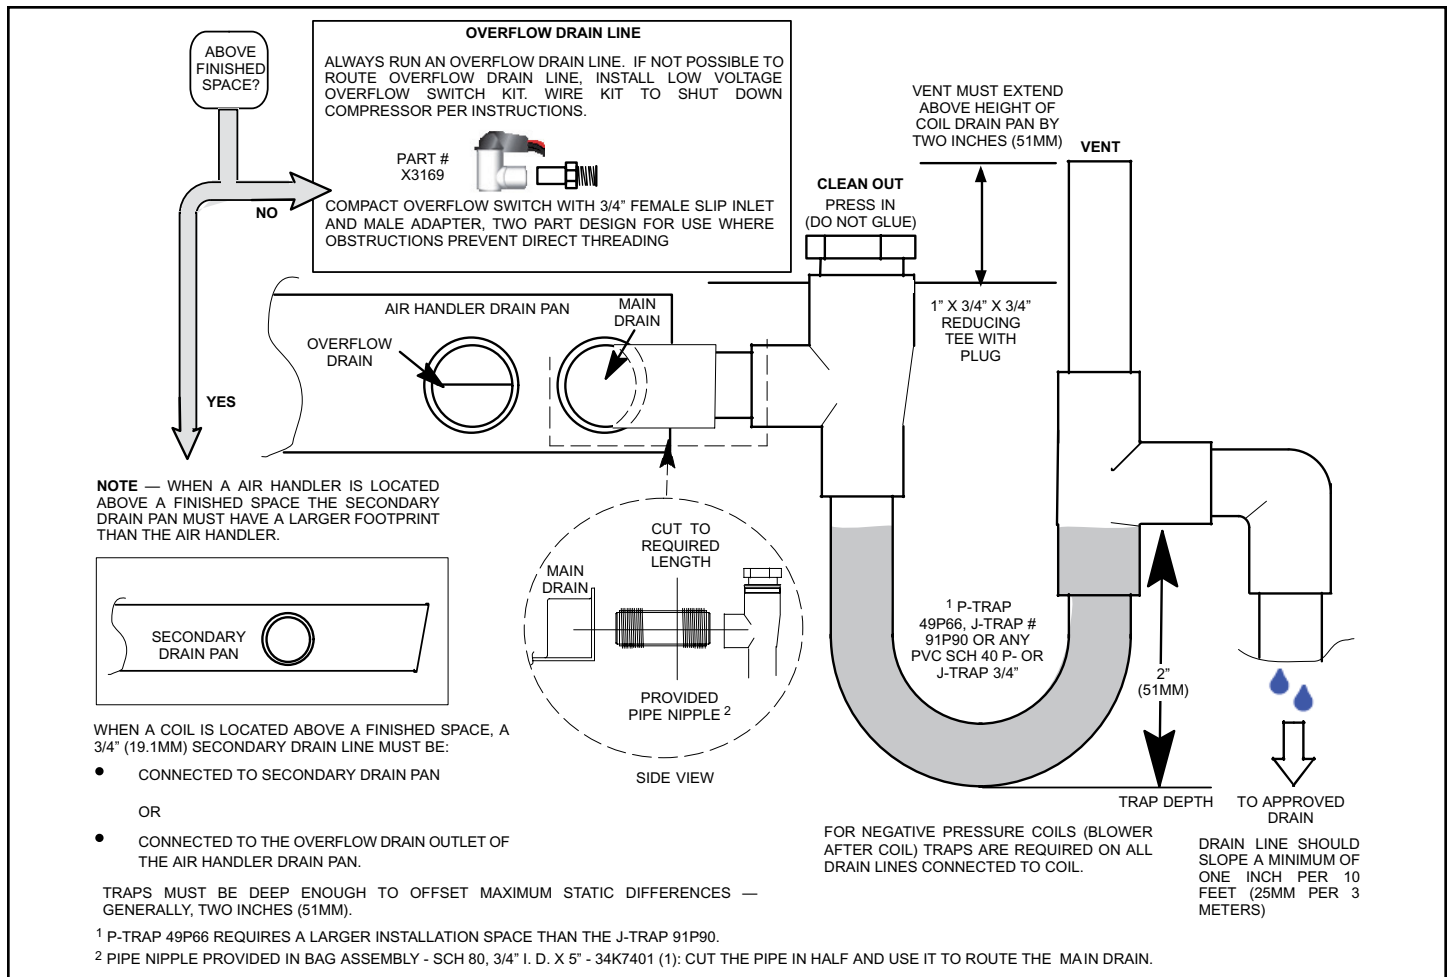

Figure 6. Typical Main and Overflow Drain
6. Install a 2" trap in the main (primary) drain lines as close to the unit as practical (see Figure 6). Make sure the top of the trap is below the connection to the drain pan to allow complete drainage of the pan.
NOTE: Horizontal runs must have an anti-siphon air vent (standpipe) installed ahead of the horizontal run. See Figure 6. An extremely long horizontal run may require an oversized drain line to eliminate air traps.